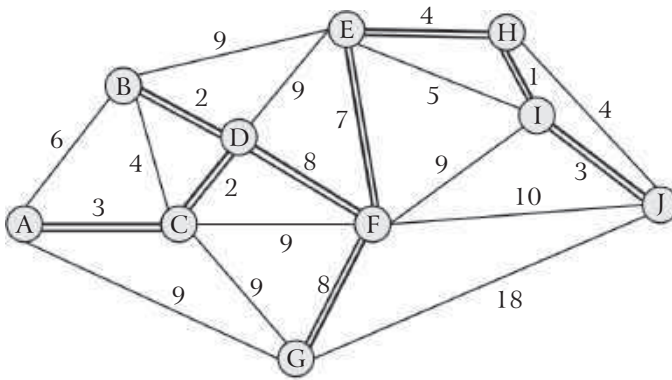

Fig. 8.15
Step 9: There is only one node $\textcircled{G}$ remaining in set $\bar{C}$, which is nearest to the node $\textcircled{F}$ of set C . So we choose this node $\textcircled{G}$ and transfer it from the set $\bar{C}$ to the set C and choose the branch joining these two nodes $\textcircled{G}$ and $\textcircled{F}$ for M.S.T. These are shown in fig. 8.15.
and $\textcircled{I} - \textcircled{J}$ as shown in fig. 8.15.